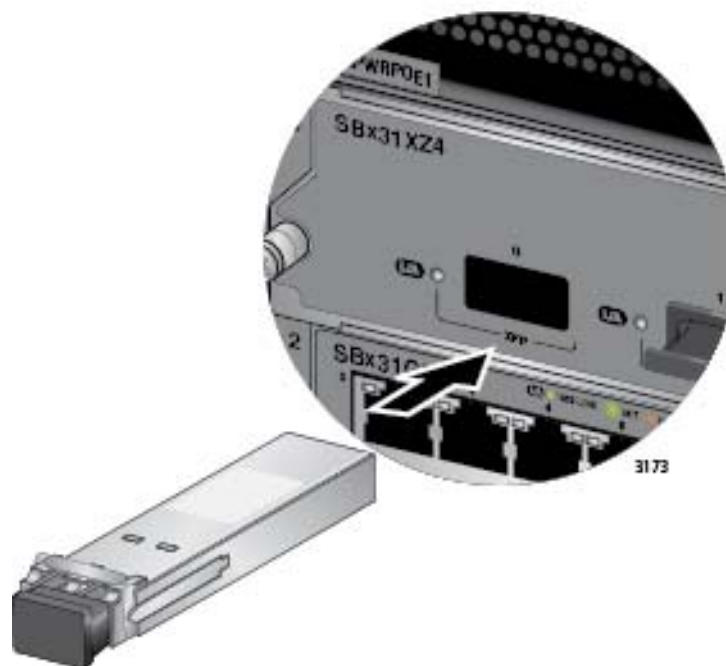

Figure 101. Installing an XFP Transceiver in the AT-SBx31XZ4 Line Card
4. Slide the transceiver into the slot until it clicks into place, as shown in Figure 101.